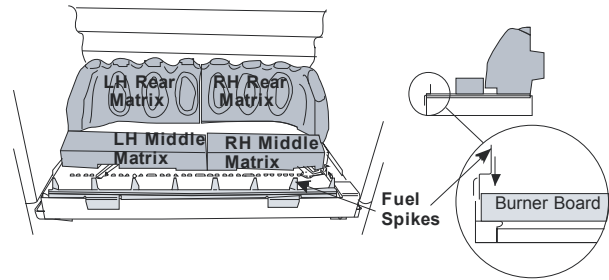

Figure 26
2. Place the **middle matrix** onto the burner board so that it keys into the triangular depression on the board (see **Figure 26**).
3. Insert the front fuel spike between the board and the front of the metal tray (see **Figure 26**).